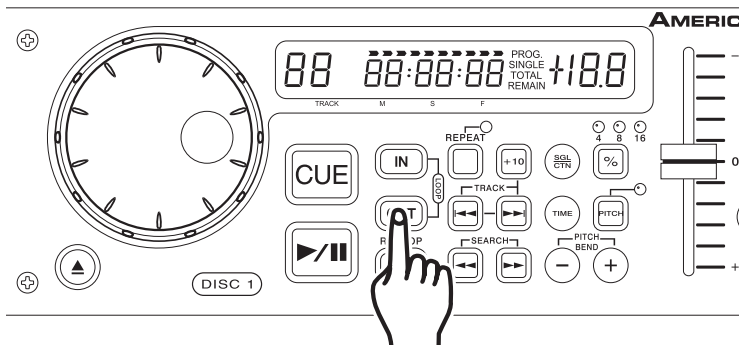

Figure 18
3) Press the OUT BUTTON (11) to set the ending point for your Loop (Figure 18). The LOOP IN AND OUT BUTTON LEDs will stay lit indicating a Loop is playing. Press the OUT BUTTON again to cancel the Loop.
4) Press the RELOOP BUTTON (16) to reactivate the loop. Press the OUT BUTTON (11) to deactivate the loop.
5) Press the OUT BUTTON (11) again when you reach your new ending point (Figure 18).
- **FOR A SHORTER LOOP:** Press the OUT BUTTON (11) at sooner point in the track (Figure 18).
- **FOR LONGER LOOP:** Press the OUT BUTTON (11) at later point in the track (Figure 18).